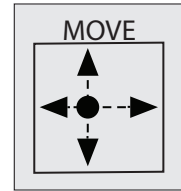

Fig. 23
1. Scroll to the “MOVE” function screen located on the CubeX control panel. (Fig. 23)